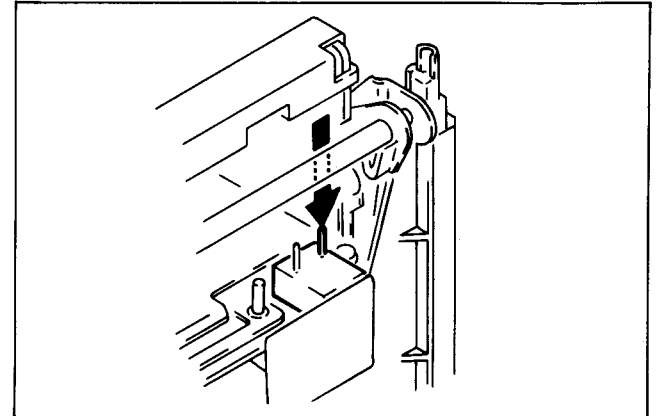

Fig. 8-57.
- 5) Hold the safety pin of the RECOG switch (rec proof side) and tape it. press the REC button to set up the REC mode. (See Fig. 8-57.)